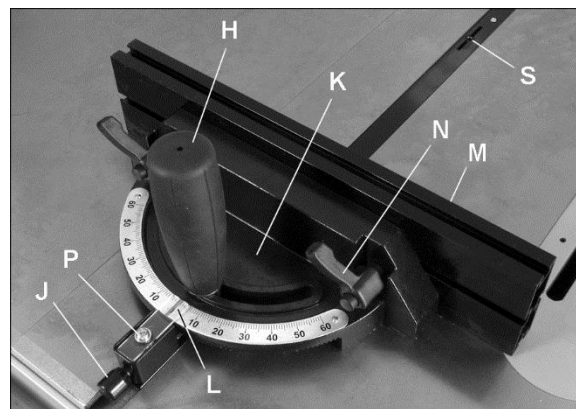

Figure 8-2
Refer to Figures 8-2 and 8-3.
2. Loosen lock handle (H, Figure 8-2) by turning counterclockwise.
3. Pull out spring-loaded knob (J) and rotate knob until body (K) of miter gauge is at desired angle as indicated on scale.
4. Tighten lock handle (H).
The miter gauge fence (M, Figure 8-2) can be adjusted by sliding to right or left, or removed entirely.
2. Set miter gauge at 90° to blade (0° setting on scale) by loosening lock handle (H, Figure 8-2), then pulling out spring-loaded knob (J) and turning body (K) until 0° is indicated on scale.
NOTE: The miter gauge bar has two slots with set screws (S, Figure 8-2). Adjust these set screws to eliminate any play between bar and miter slot.